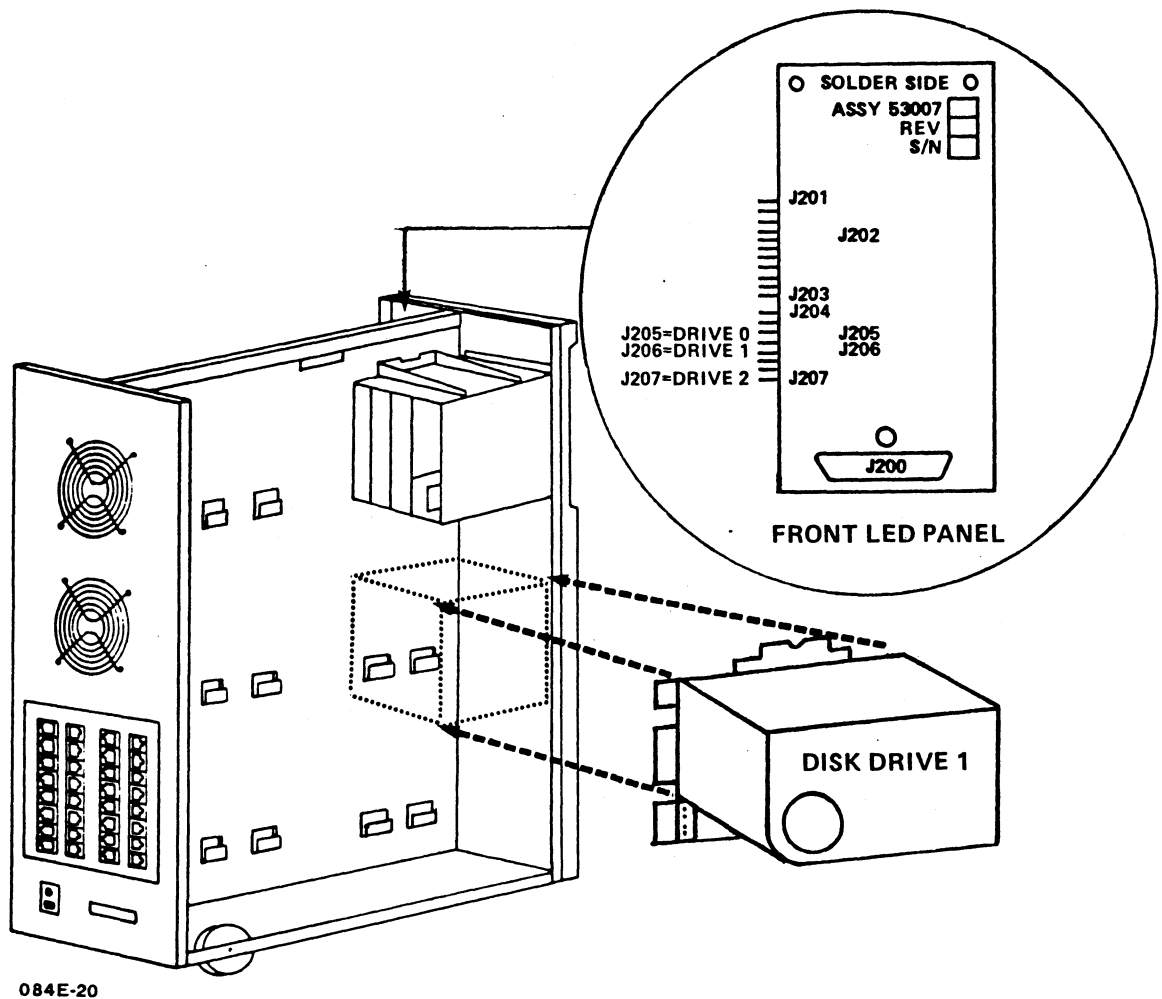

Figure 5-10. Adding a Second Disk Drive
4. Mount disk drive 1 immediately below the streaming cartridge tape and/or floppy disk drive(s) as follows (see Figure 5-10):
7. Route and connect the select light LED cable as follows (see Figure 5-10):